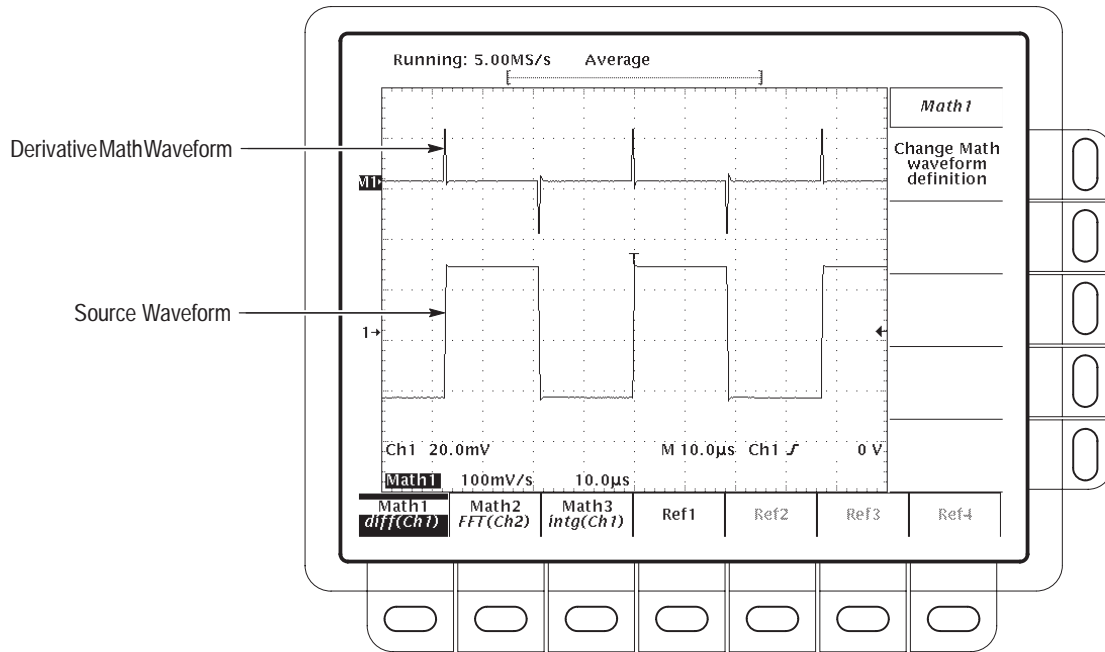

Figure 3-73: Derivative Math Waveform
3. Press **MORE** → **Math1**, **Math2**, or **Math3** (main) → **Change Math Definition** (side) → **Single Wfm Math** (main). See Figure 3-73.
- Expand the waveform horizontally on screen. For instance, if you display the source waveform illustrated in Figure 3-73 on page 3–132 so its rising and falling edges are displayed over more horizontal divisions, the amplitude of the corresponding derivative pulse will decrease.